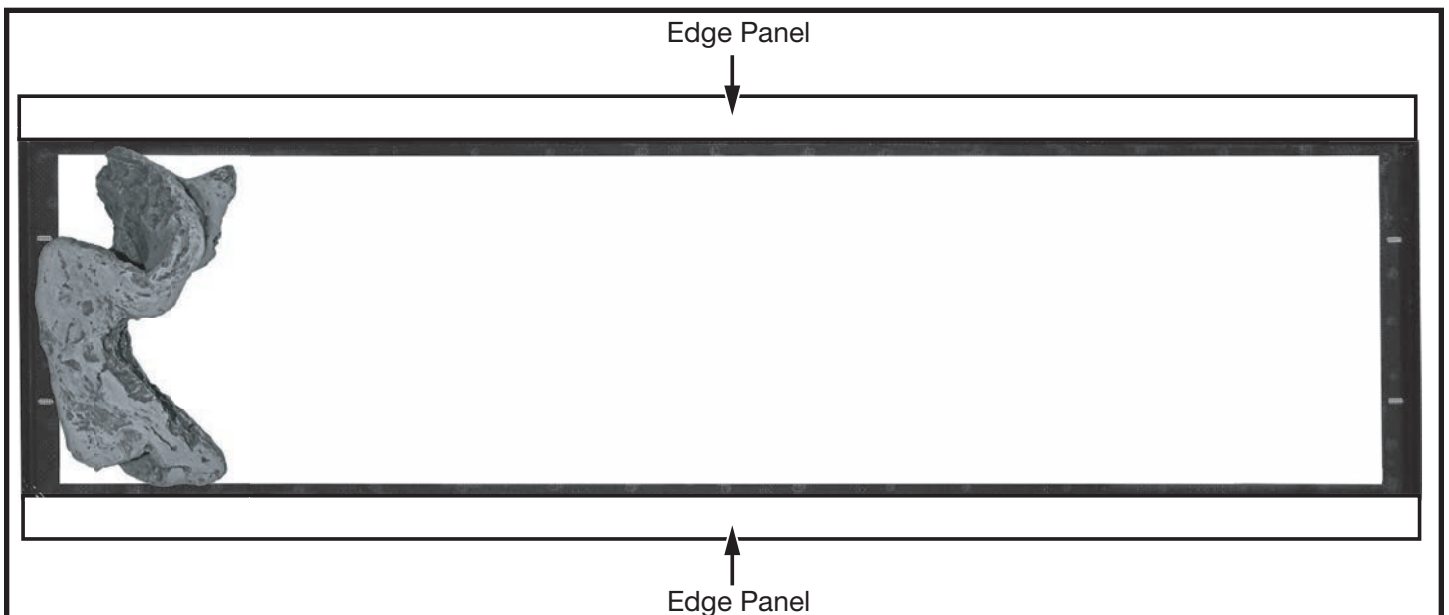

Figure 38: Log 1 Placement.
1. Place log 1 so that its' outer edge is almost at the furthest edge of the tray (Figure 38).